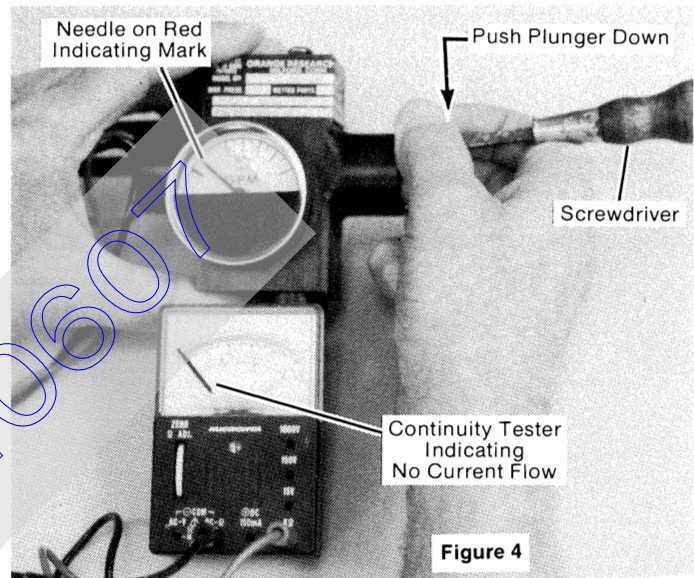

Figure 4
3. Using a screwdriver as shown in Figure 4, slowly push **down** the plunger inside the flow switch.